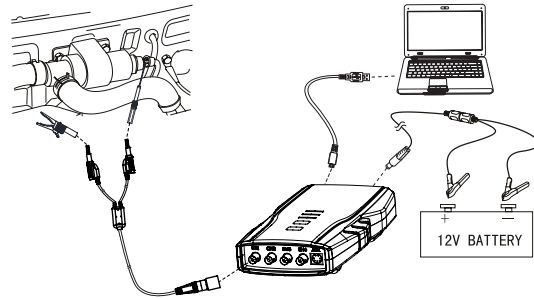

Fig. 44: Equipment connection
1. Connect equipment according to Fig.44, switch on power supply.